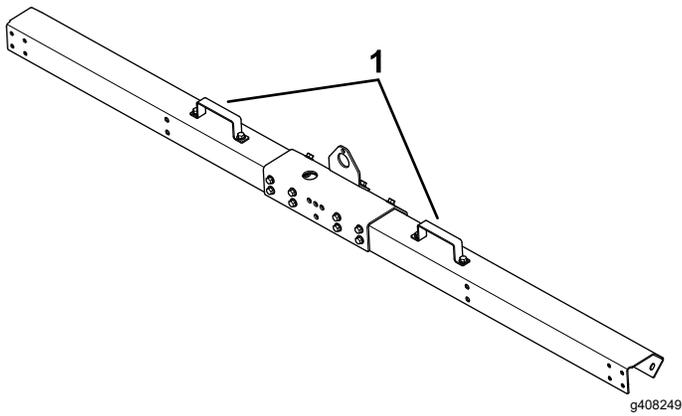

Figure 14
- Install the handles onto the shroud assembly with 2 hex bolts (3/8 x 1 inch) and 2 locknuts (3/8 inch) on each (Figure 14).